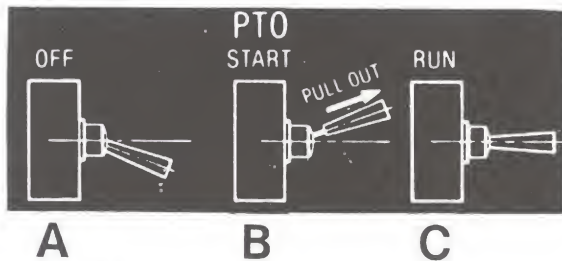

FIGURE 11.
2. Flip the toggle switch to the "ON" position. See figure 11.